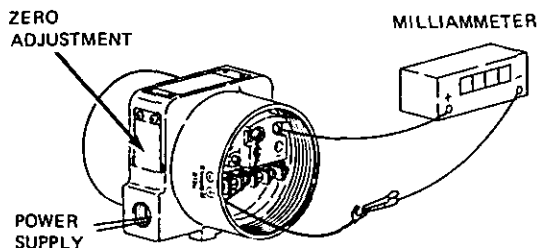

Figure 22.
1. Insert a 4-digit $\pm 0.1\%$ milliammeter into supply-receiver loop (see Figure 22).